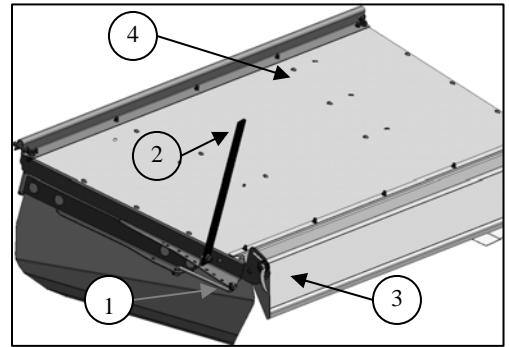

Figure 1
- 1) **Windrow width adjustment.** See Figure 1 Ref#1
- 2) **Forming Shield height adjustment.** See Figure 1 Ref# 2
- 3) **Rear Baffle Adjustment.** See Figure 1 Ref# 3
- 4) **Inner Deflecting fins.** See Figure 1 Ref# 4